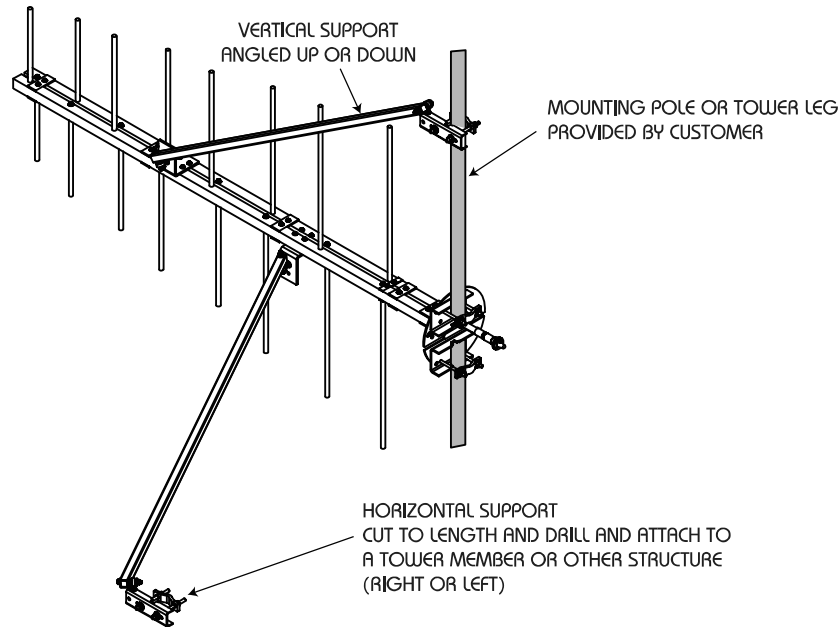

Figure 5. Mounting antenna on tower (vertical polarization shown)
In addition to the above parts, before beginning you need to have (see Figure 5):
4) Do not attach the brace channel to the horizontal support (18) at this time.
e. Mount the antenna bay on the pole or tower (Figure 5):